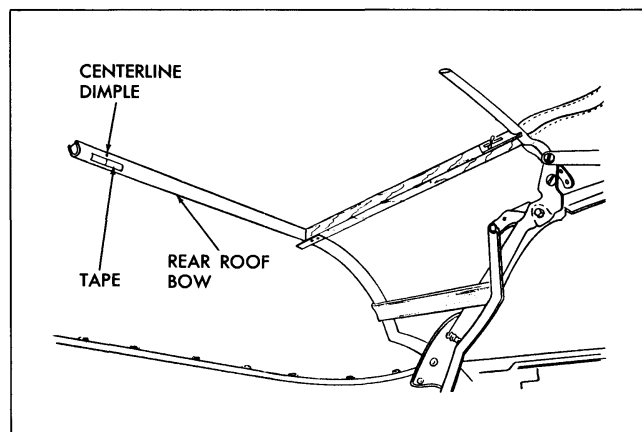

Fig. 21-31 Marking Rear Roof Bow
24. Along forward surface of rear roof bow install a 1" piece of tape at centerline dimple of rear roof bow. Using a pencil, mark centerline of rear bow on tape (Fig. 21-31).
*NOTE: The deck seam mark will vary slightly ( $\pm 1/4"$ ) depending upon position of rear roof bow. Also check centerline mark on inner lining of top material. Mark should correspond to centerline mark on rear roof bow (see Fig. 21-31).*